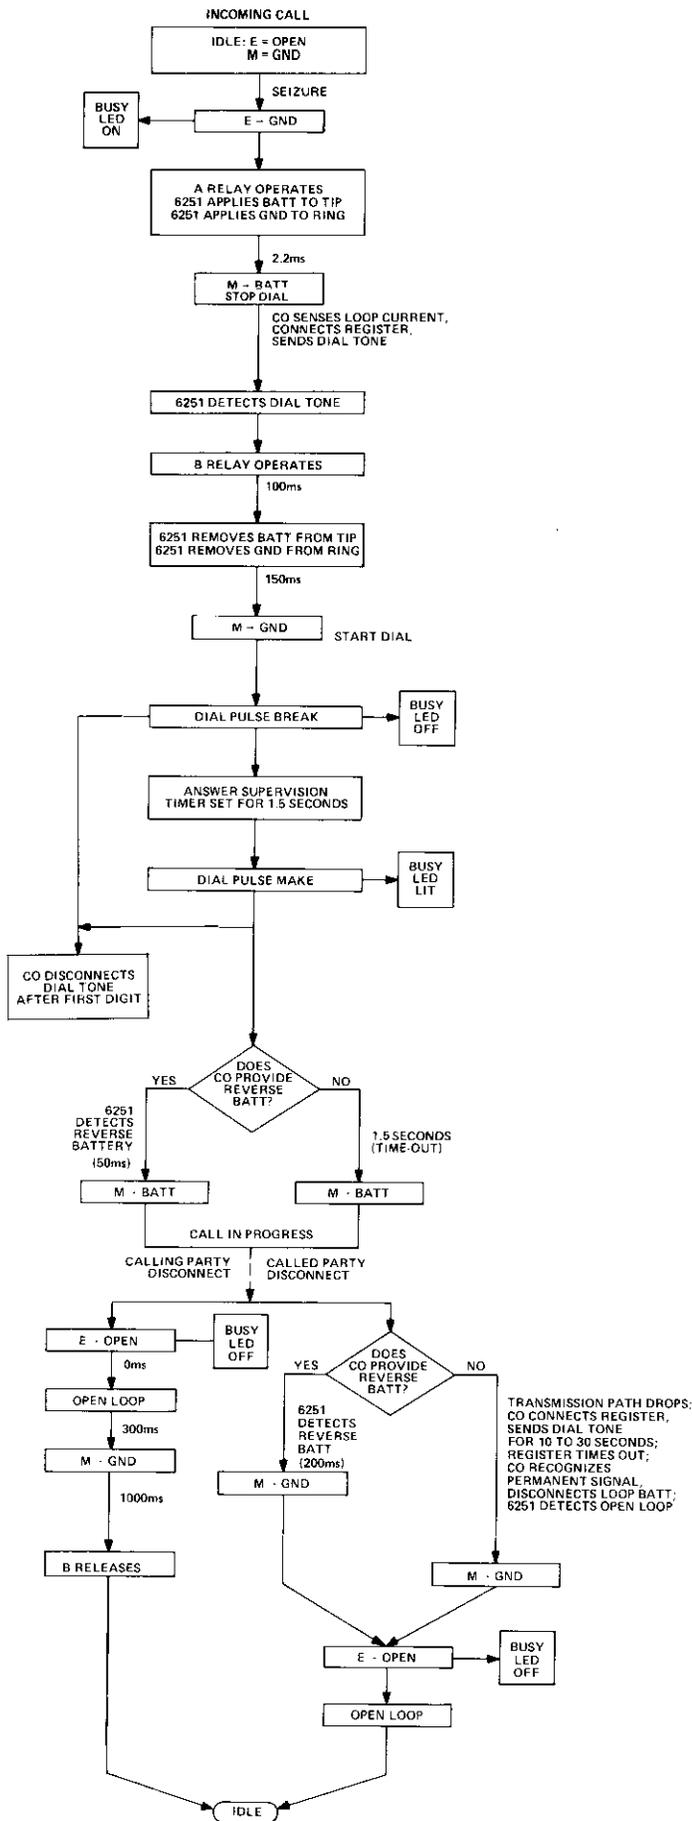

figure 7. Function sequence chart, incoming call, loop-start (dial-tone detection) operation
*Note: This testing guide assumes ground start operation with Type I E&M signaling interface. Tests should be performed in sequence. Refer to figures 7 and 8 to determine if your module is operating normally for dial tone detection operation.*